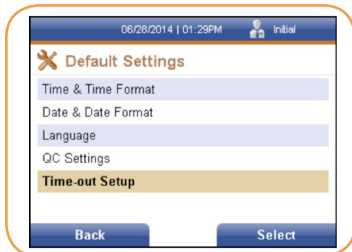

FIGURE 17
1. Enter the desired times in the text fields using the numeric keys on the reader, then press the right soft key to accept the changes made to the timing, or select the left soft key to discard any changes made to the time selections. Either selection will return the user to the previous menu (Figure 17).